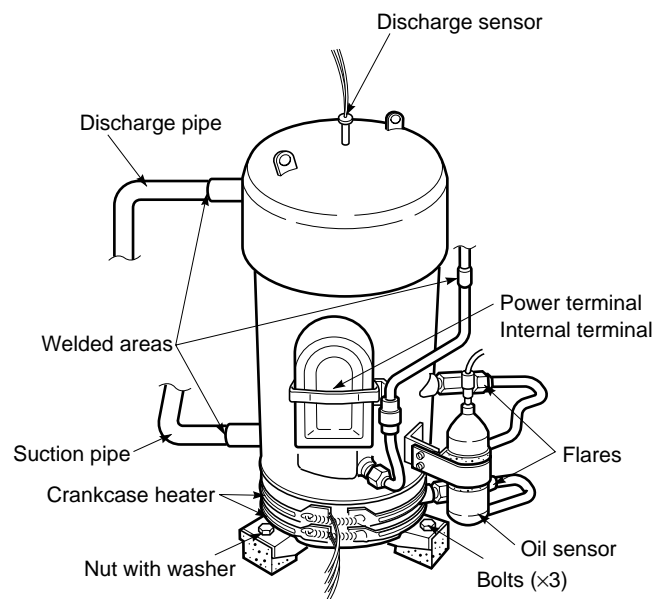

Fig. 4
1. Prepare to install the compressor. (Ref. Fig. 4)